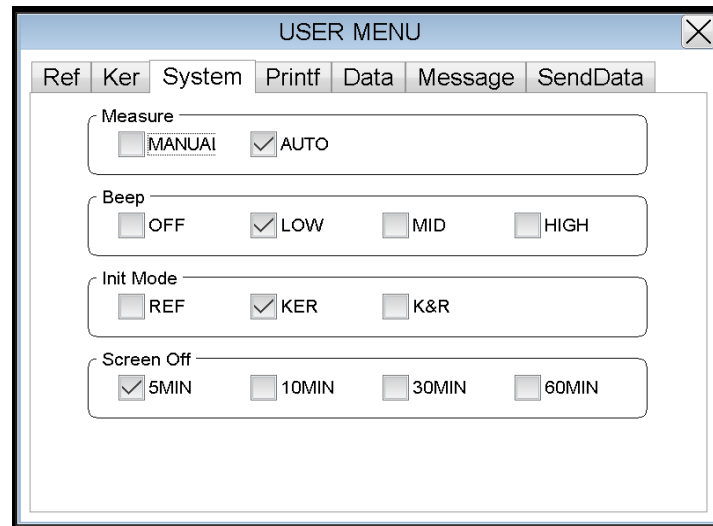

Figure 12
8.1.3 mode setting (see Figure 12)